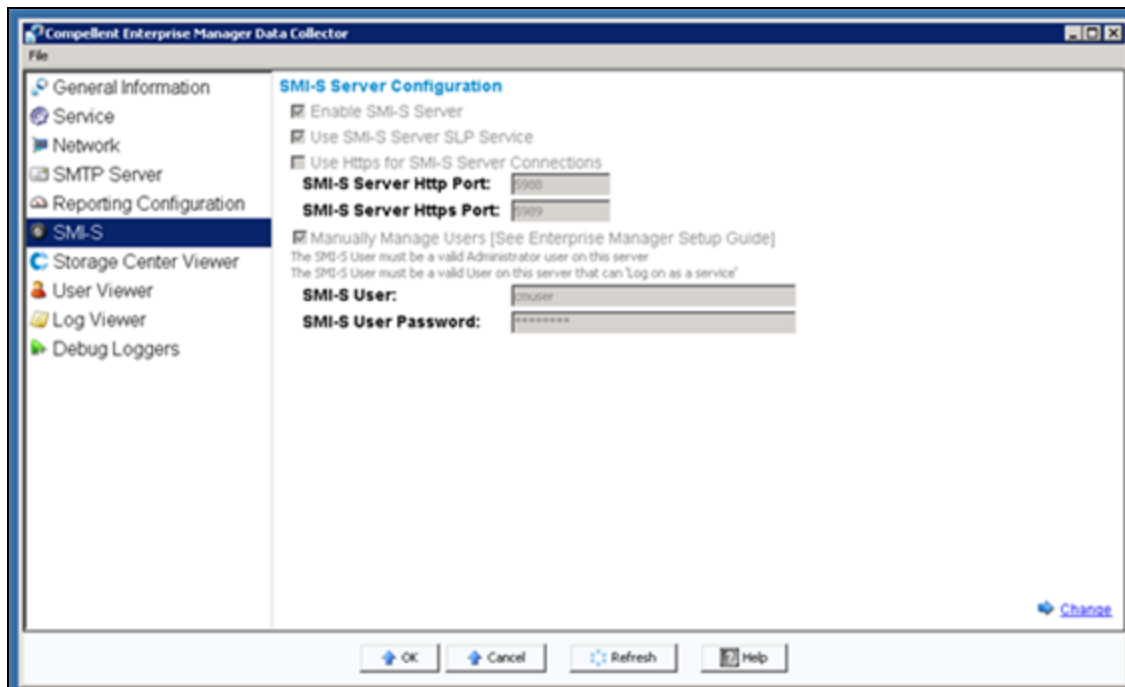

Figure 2.9: Enabling the SMI-S Server properties for a Local Service Account Service User Type
3. Finally, you will be required to enable the SMI-S server properties as shown in Figure 2.9 . Clicking the **Change** link in Figure 2.9 will enable you to make the following changes to the SMI-S Server Configuration: